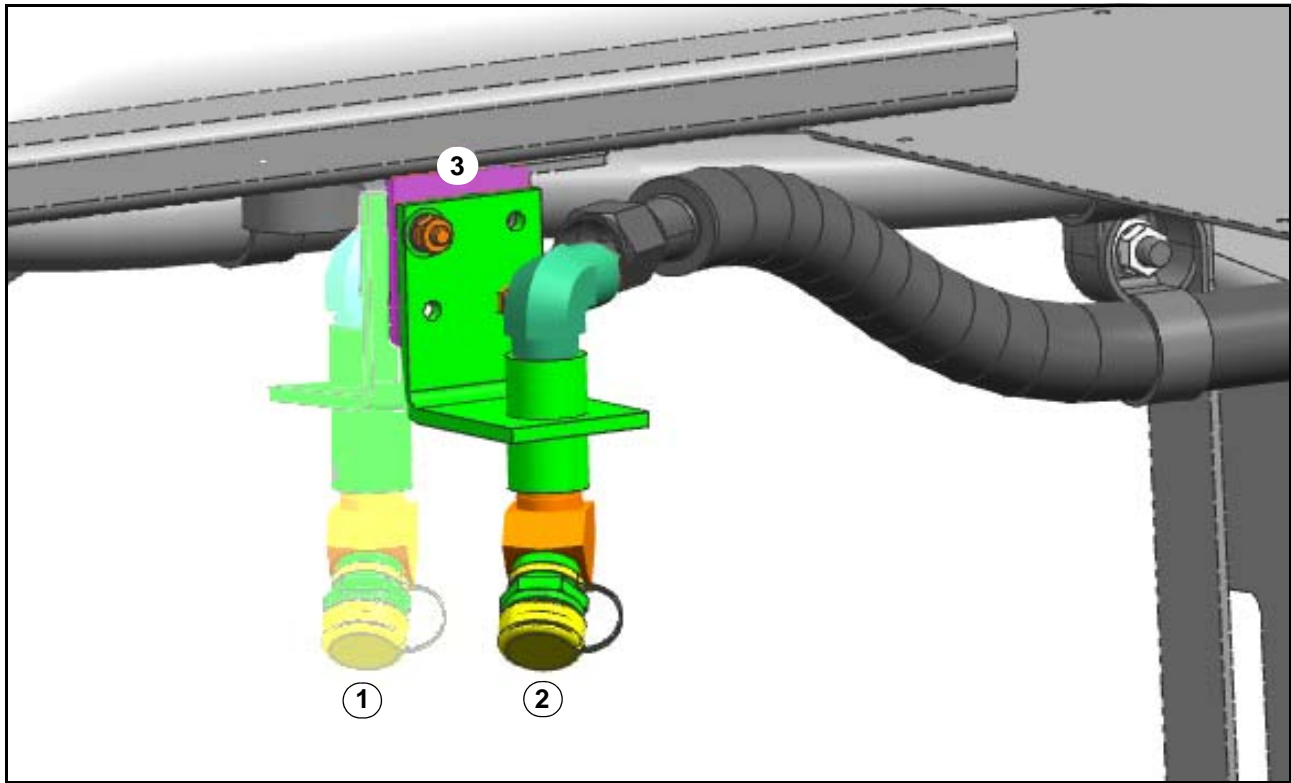

Figure 2. Retrofit installation mounting information.
5. Locate the Amerex hose / nozzle assembly installations (pre and post retrofit) shown in Figure 2.
Item	Figure 2 Description